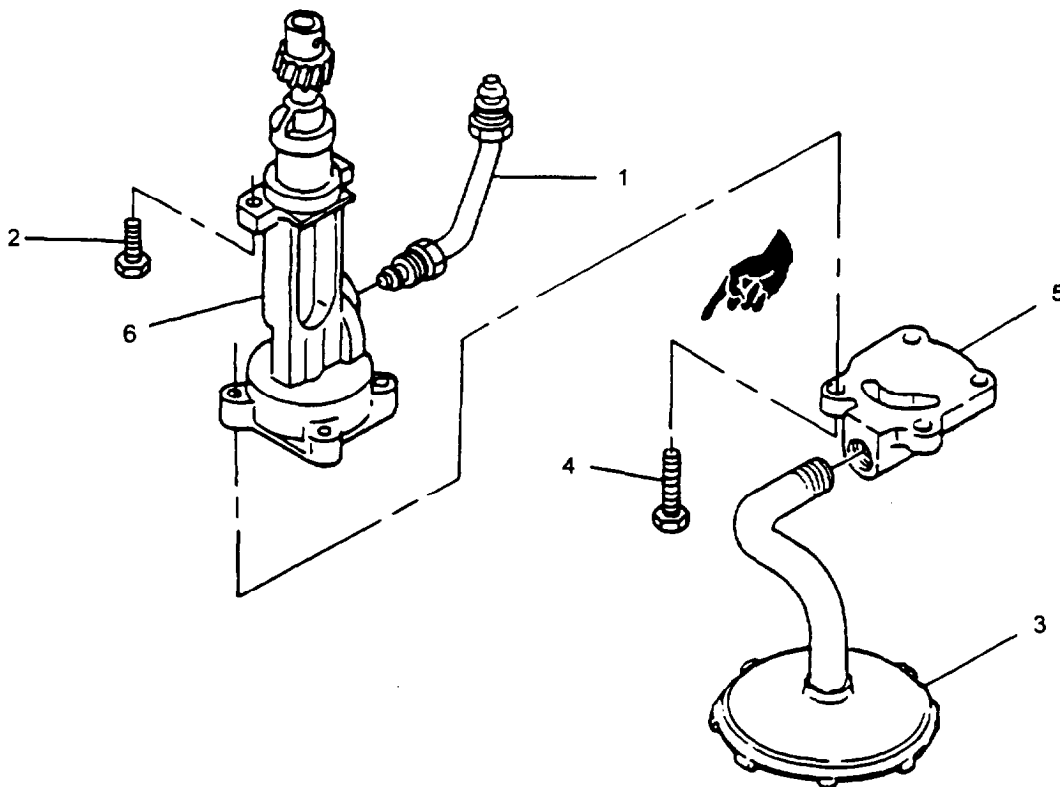

FIGURE 3-41. Oil Pump Assembly
- c. Disconnect oil pipe (1, FIGURE 3-41) at sleeve nut.
- d. Remove two screws (2) securing pump assembly and remove pump.
- e. Disconnect pipe (1) from pump.
- f. Unscrew strainer assembly (3) from pump cover (5).
- g. Remove four screws (4) securing pump cover (5) to pump rotor (6).
- a. Using a feeler gage, measure clearance between vane, rotor, and cover as shown in View A, FIGURE 3-42. Standard clearance is 0.0008 to 0.0028 in. (0.02 to 0.07 mm) and limit is 0.0059 in. (0.15 mm). If clearance exceeds limit, replace pump rotor (8, FIGURE 3-41).
- a. Position pump cover (5, FIGURE 3-41) on pump rotor (6) and secure with four screws (4).
- b. Attach strainer assembly (3) to pump cover (5).
- c. Attach oil pipe (1) to pump.
- d. Position pump in engine and secure with two screws (2). Tighten screws to 168 in-lbs (19.0 Nm).
- e. Connect other end of oil pipe (1) to engine at sleeve nut.